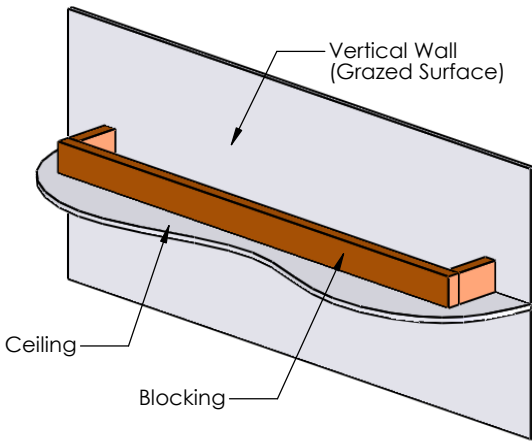

FIGURE 1
1. Before Stealth Graze can be installed, blocking should be installed above ceiling around the fixture. (Figure 1)